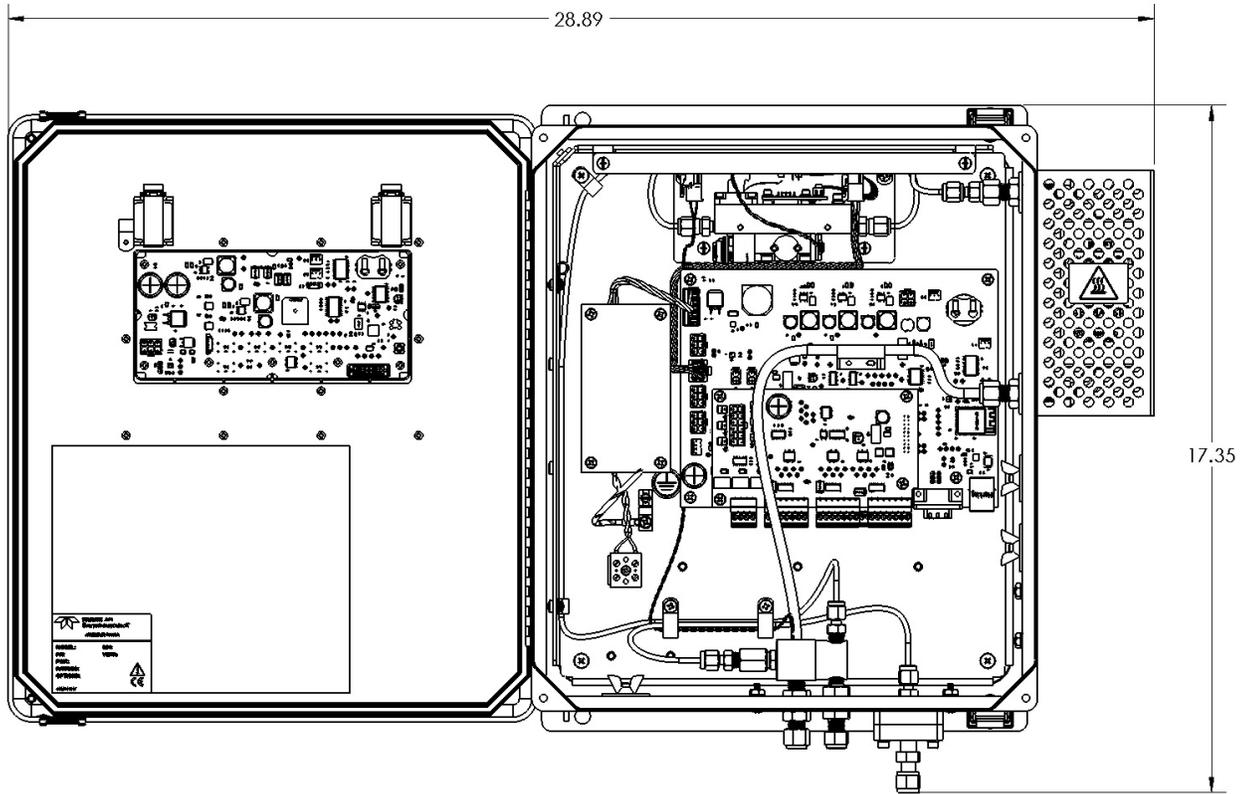

Figure 3-2. 480H Dimensions
- The illustrations in Figure 3-2 show the mounting dimensions and the locations of the four mounting holes, which are 0.32" (8.128 mm) diameter